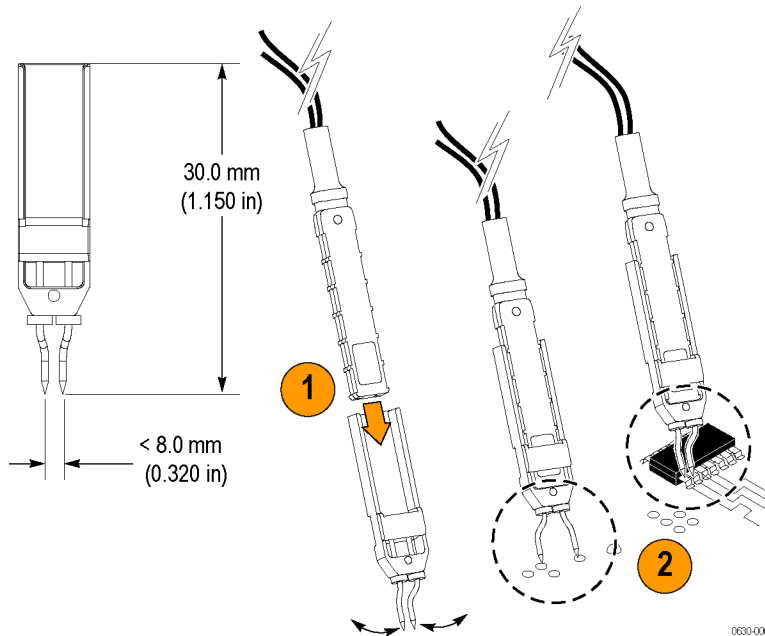

Figure 10: Insert the lead set into the hand browser
1. Insert the lead set into the hand browser. (See Figure 10.)